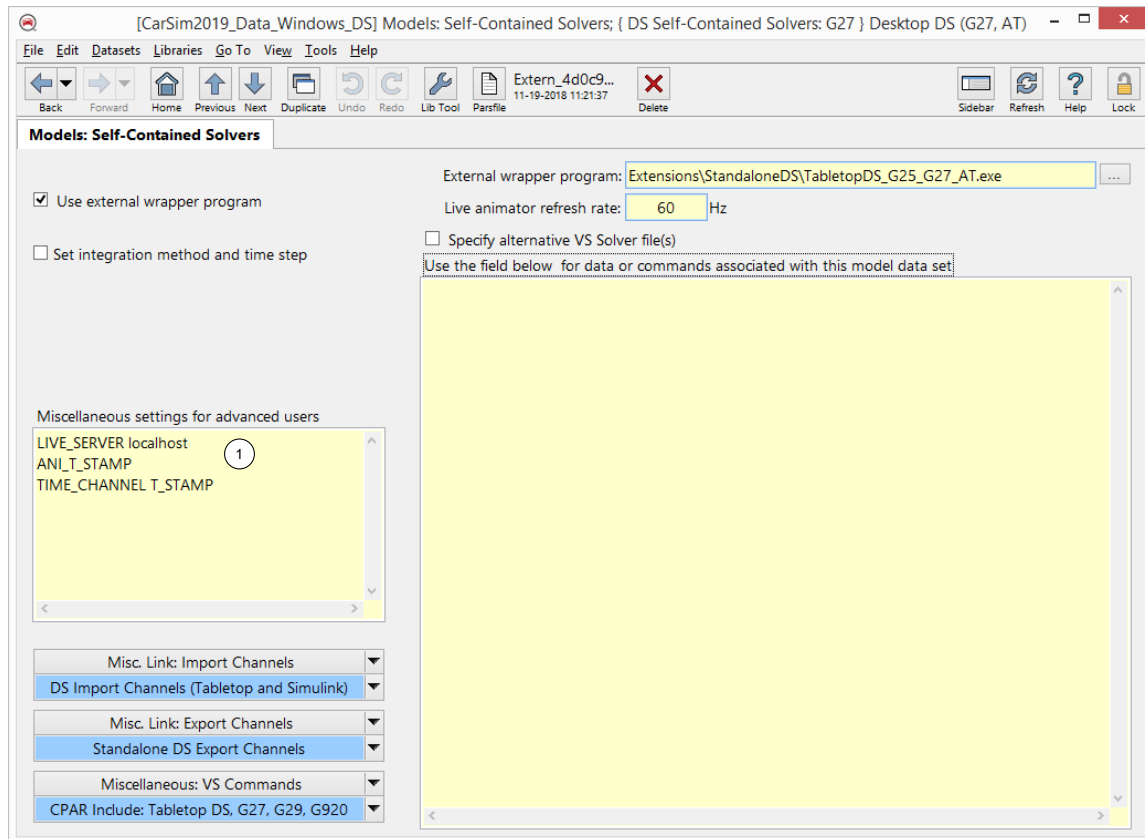

Figure 49. Models screen appearance, with VS Commands for Live Animation.
3. On the **Models** screen, the keyword LIVE_SERVER is set to localhost (Figure 49, ①).